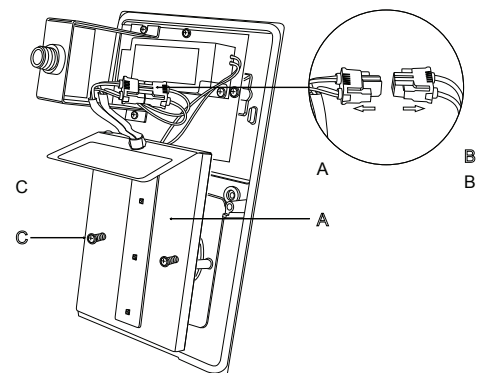

FIG. 1
10. In order to turn on/off the photocell function a cap is supplied. Follow instructions Fig .1.